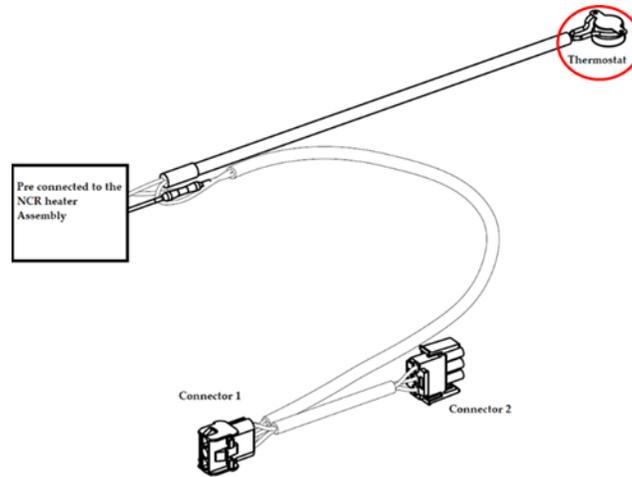
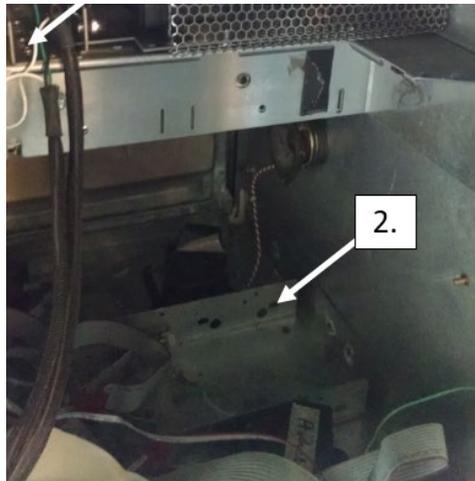

Figure 146
Figure 147
- 7) Use a cable tie (006-8616073) to secure the thermostat (identified in Figure 146) at the bottom of the dispenser to an available opening/hole near area [2] See Figure 147.